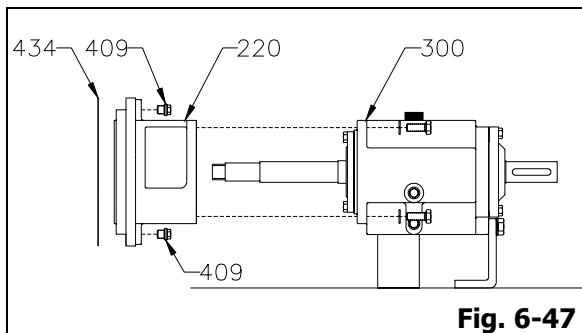

Fig. 6-47
- Support bearing frame (300) securely to workbench. Remove four (4) frame adaptor bolts and lift off frame adaptor (220) from bearing frame (300).
- Remove frame adapter gasket (434), all connection plugs (409) or/and piping adaptors from frame adaptor (220) (Fig. 6-47).